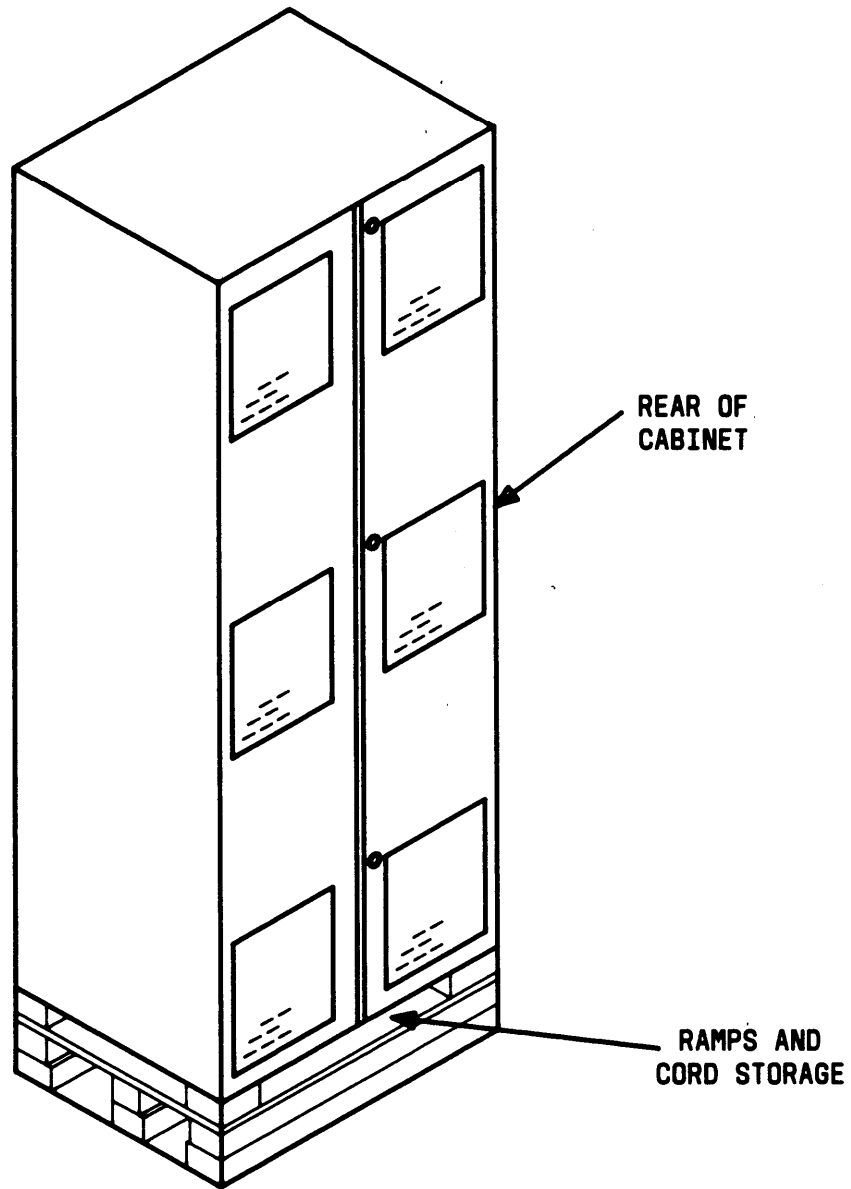

Figure 43. Pallet-Mounted Auxiliary Cabinet
15. Place the ramps at end of pallet in line with the rear cabinet casters (Figure 43).